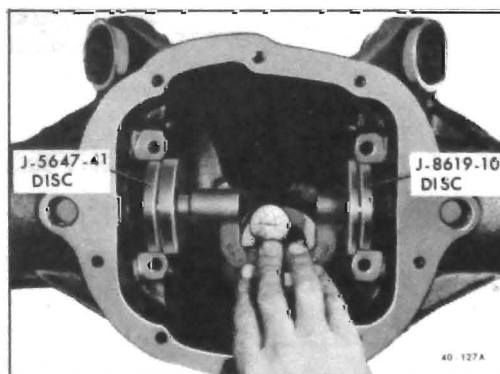

Figure 40-105 - Checking Pinion Depth
8. Be certain differential bearing support bores are free of dirt and burrs. Install indicator gage in carrier so that small diameter portion of discs rest in differential bearing pedestal support bores. Spring-loaded center of gage must be located in centering hole of gage plate, and ball-tipped contact button of dial indicator must be positioned to bear against outer edge of gage plate top surface. See Figure 40-105.